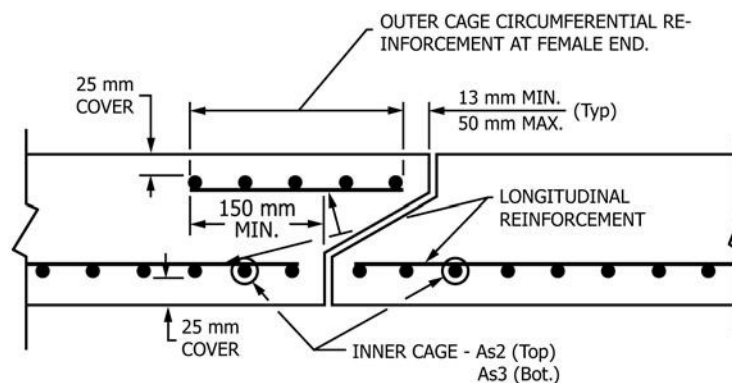

FIG. 2 Section A-A Top and Bottom Slab Joint Reinforcement
٨. FIG. 2 Section A-A Top and Bottom Slab Joint Reinforcement
الشرح الشامل لتفصيلة التسليح: (FIG. 2)